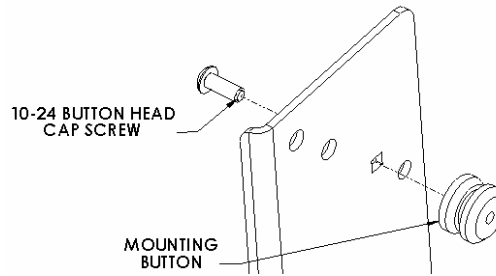
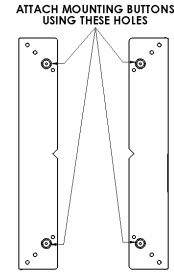

Figure 2
Figure 3
2. Using a 10-24 button head cap screw inserted from back side of bracket, secure mounting button, with chamfered hole of mounting button (larger surface) facing bracket, to bracket (four places) (see Figure 2 & Figure 3).